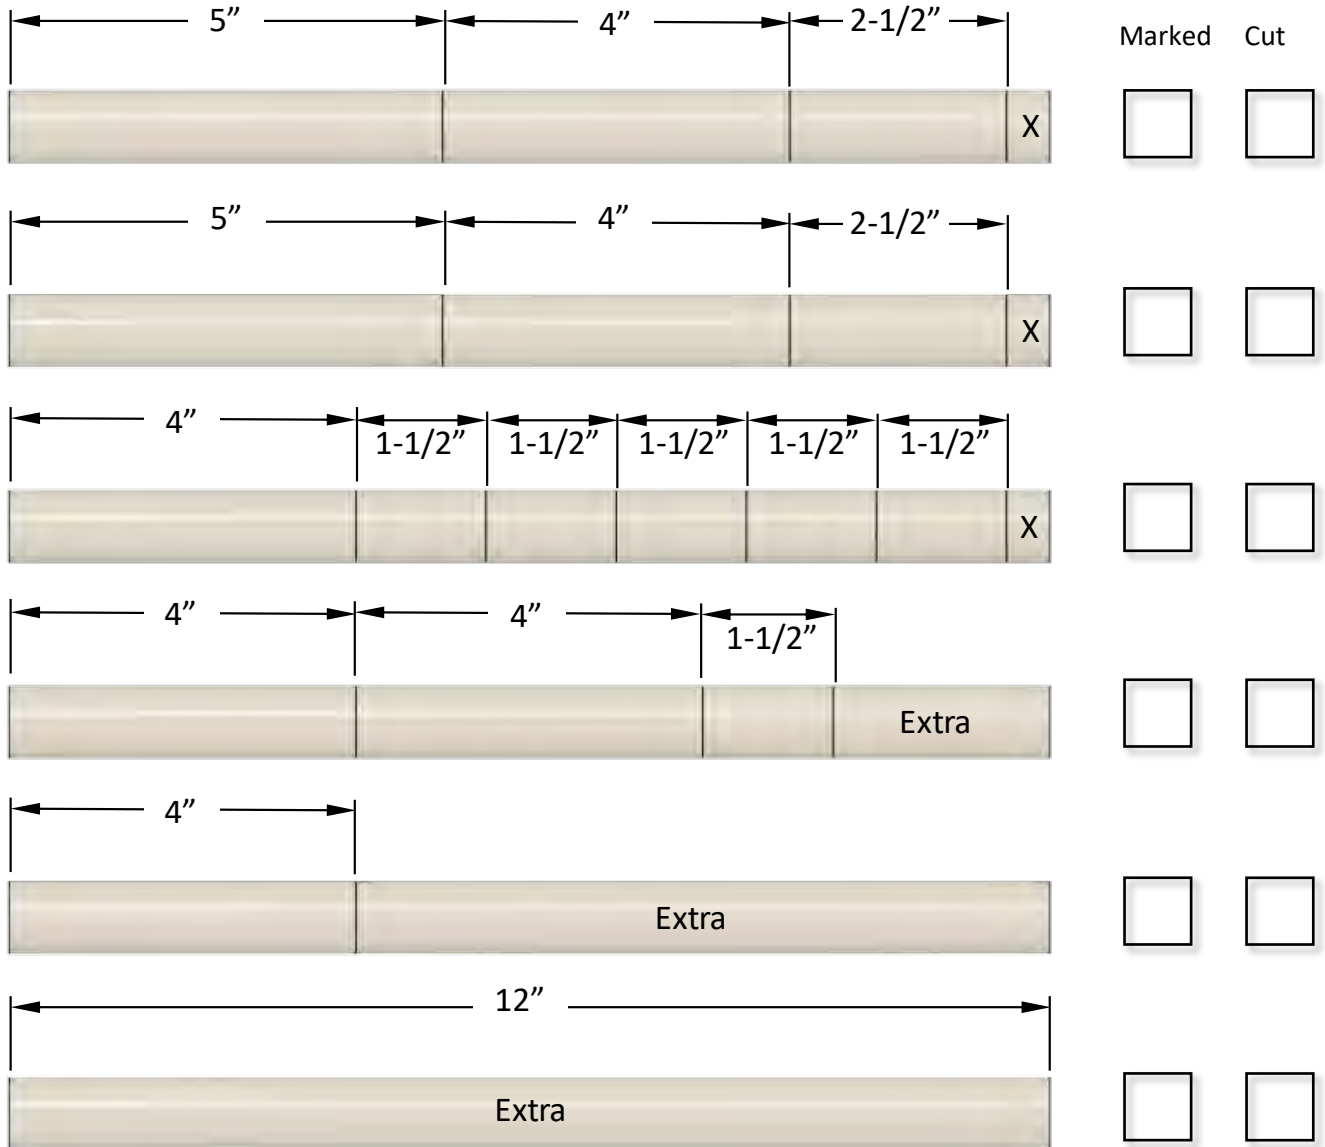

Figure 6
- Using the Pipe List and Cutting Guide (Figure 6 on next page), precisely measure and mark the PVC pipes. Use the checkboxes to keep track of which pieces have been marked and cut.